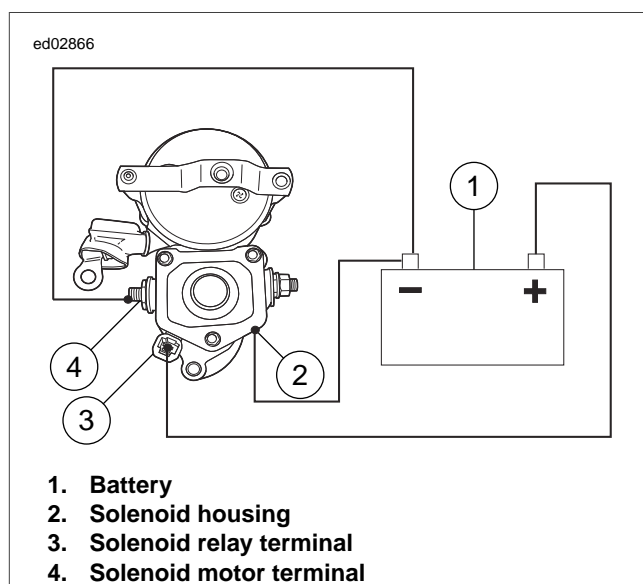

Figure 3-6. Pull-In Test
Do not disassemble solenoid. Before testing, disconnect field wire from solenoid motor terminal as shown in Figure 3-6.
1. See Figure 3-6. Using a 12V battery, connect three separate test leads as follows: